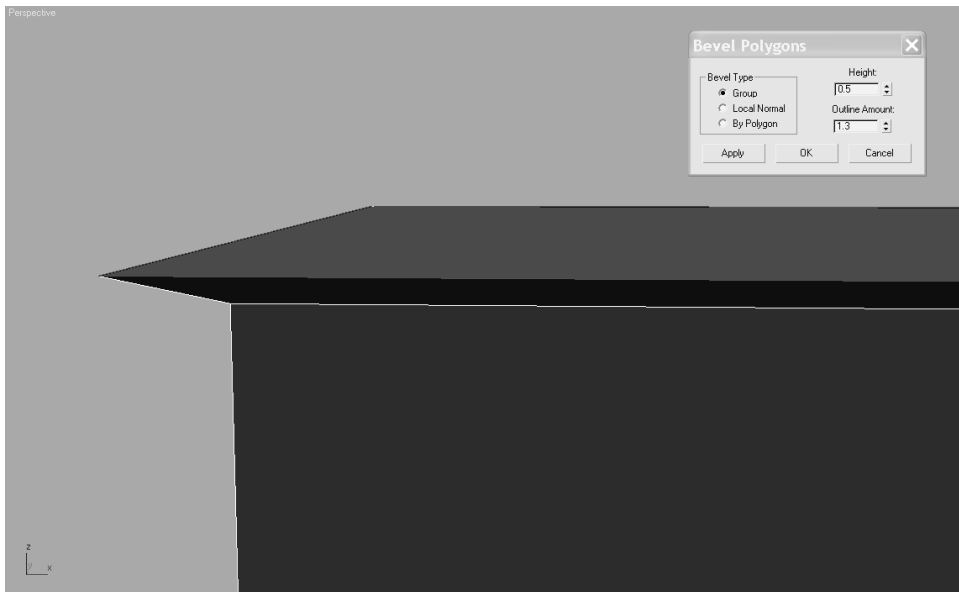

Figure 4.46
- Enter the following parameters: Height: **0.5** and Outline Amount: **1.3**. Keep the Bevel Type set to Group as shown. Bevel Type will be explained in the Hand Modeling exercise in the next section. For now, just know that when you bevel only one poly, the Bevel Type is irrelevant; it is only for multiple polygons. Click the Apply button (*not* the OK button), and Max will apply the specified settings without closing the window to give you results that should be similar to Figure 4.46.